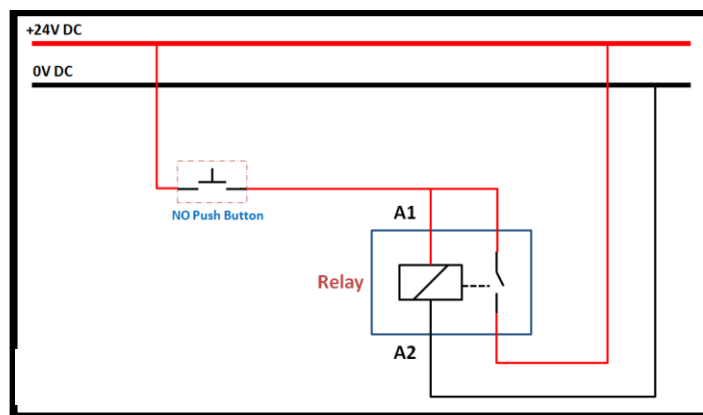

Figure 2.34: Relay Latching Circuit with NO contact
1. Connect the relay and button as shown in Figure 2.34. When the button is pressed, the power will reach the relay A1 point, the relay is turned on, and its contacts change, but when the button is released, the power is cut off and the relay is turned off. But the relay is not outdated. Therefore, please use the relay normally open contact to hold.